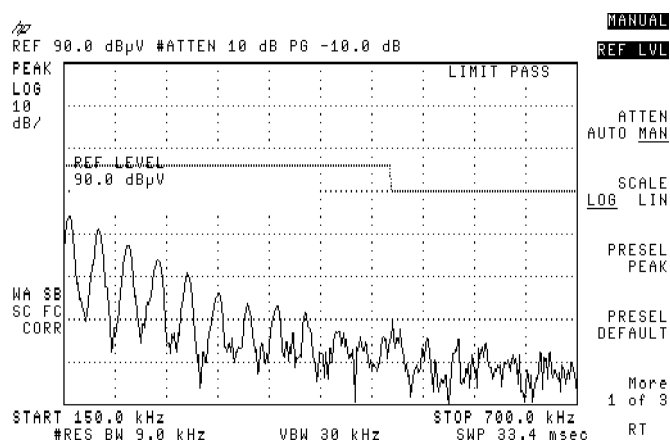

Figure 3-32. Adjusting the Amplitude Level
22. Press 90, **(dB)**. See Figure 3-32.